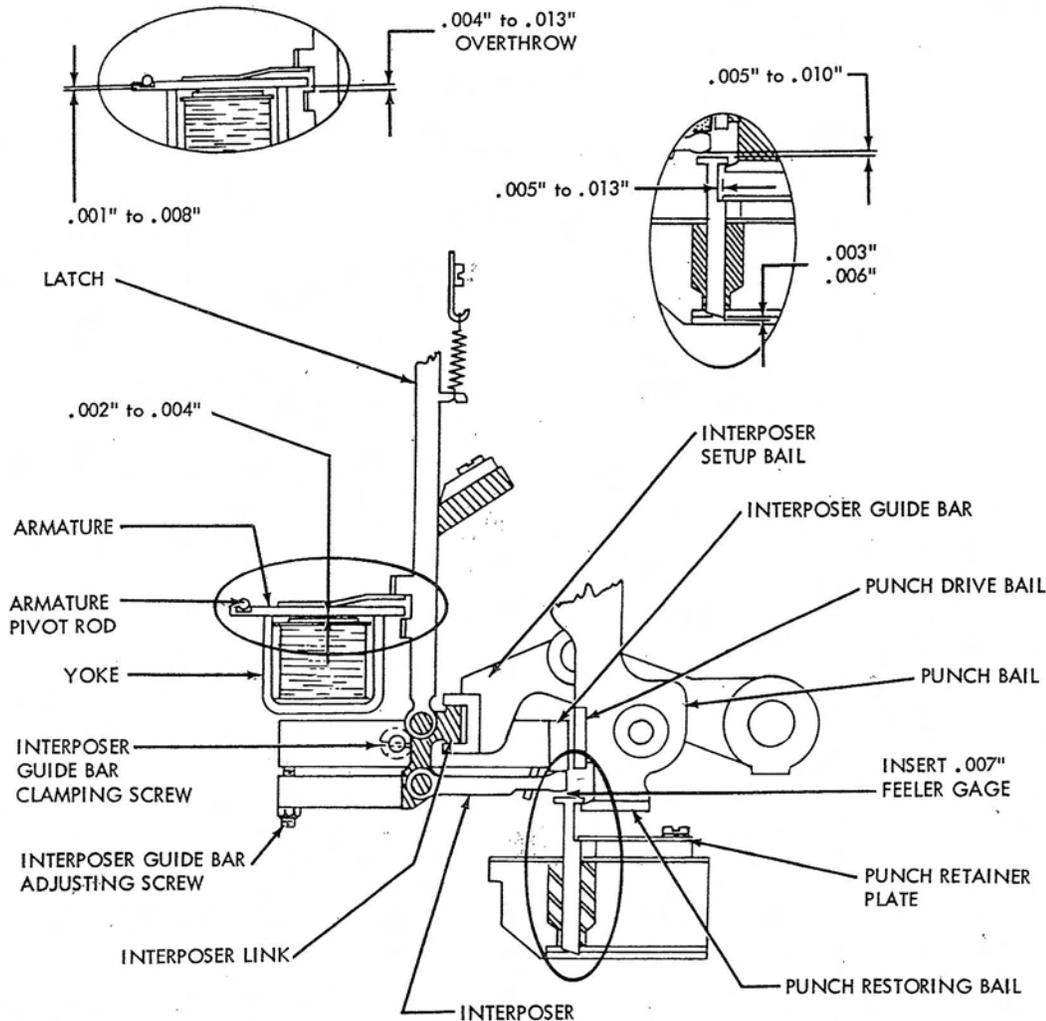

Figure 3-34. Punch Unit Adjustments
3. Remove latch spring. See Figure 3-34.
- a. With the punch magnet de-energized, insert .007" feeler gage between punch and interposer. See Figure 3-34.
- a. Slightly loosen interposer guide bar clamping screws. See Figure 3-34.
4. Remove latch spring from latch. See Figure 3-34.
5. Push down on latch and unhook interposer link. See Figure 3-34.
- a. Provide .002" to .004" clearance between armatures and cores. See Figure 3-34.
- b. Check armature-to-pivot rod clearance. Set clearance between perceptible minimum movement to a maximum of .008" with operating end of armature held against yoke. See Figure 3-34.
3. Carefully place drive unit on magnet unit so all 80 interposer links fit into interposer setup bail. See Figure 3-34.
- a. Check .004" to .013" latch overthrow. See Figure 3-34.
- b. Check .005" to .010" interposer to punch clearance. See Figure 3-34.
3. Remove retainer plate from stripper assembly. See Figure 3-34.
- a. Check for .005" to .013" punch-to-retainer-plate clearance before re-assembling stripper to punch unit. See Figure 3-34.
- b. Check for .005" to .010" interposer-to-punch clearance. See Figure 3-34.
2. Check that toes of punches retract .003" to .006" into stripper. See Figure 3-34. Adjust by adding or removing shims 437964 between the stripper assembly and punch unit side frame. (Shim 437964 is .003" thick.)
3. Adjust retainer plate for .005" to .013" clearance between plate and punches. See Figure 3-34.